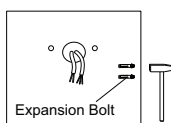

Fig. 4
- 3.) Insert expansion bolts (anchor bolts) into the holes drilled in step 1 (see **Fig. 4**).